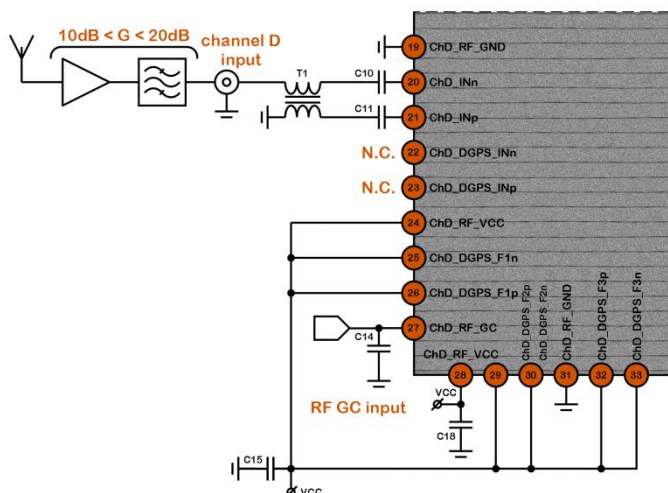

Figure 3.7: Channel “D” specific application schematic:
- If DGPS input of channel “D”, intended for FM, VHF or UHF band receiving, is not used, the following facilitated application schematic can be used for channel “D” (see Figure 3.7 and Table 3.6). Components C12–C13, L3–L4, L6–L9 and T2 can be excluded from the application schematic.